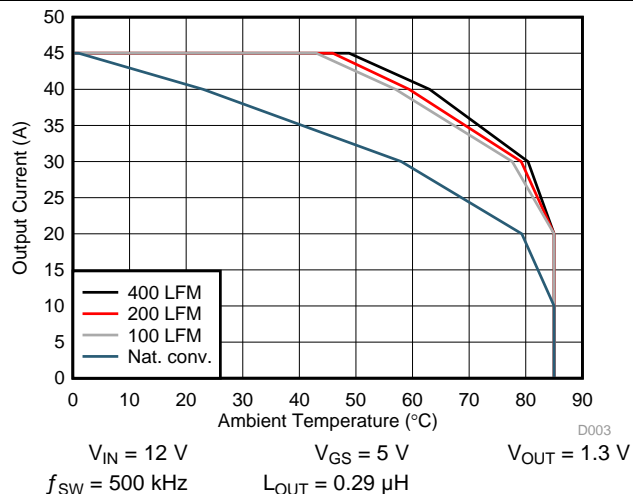

图 3. Safe Operating Area (SOA) – Thermal Airflow Measurement PCB Vertical Mount
$T_J = 125^\circ\text{C}$, unless stated otherwise. The Typical Power Block System Characteristic curves 图 3, , and 图 4 are based on measurements made on a PCB design with dimensions of 4" (W) \times 3.5" (L) \times 0.062" (H) and 6 copper layers of 1-oz. copper thickness. See Application and Implementation for detailed explanation.
The SOA curves in the CSD87355Q5D data sheet provides guidance on the temperature boundaries within an operating system by incorporating the thermal resistance and system power loss. 图 3 to 图 4 outline the temperature and airflow conditions required for a given load current. The area under the curve dictates the safe operating area. All the curves are based on measurements made on a PCB design with dimensions of 4" (W) \times 3.5" (L) \times 0.062" (T) and 6 copper layers of 1-oz. copper thickness.